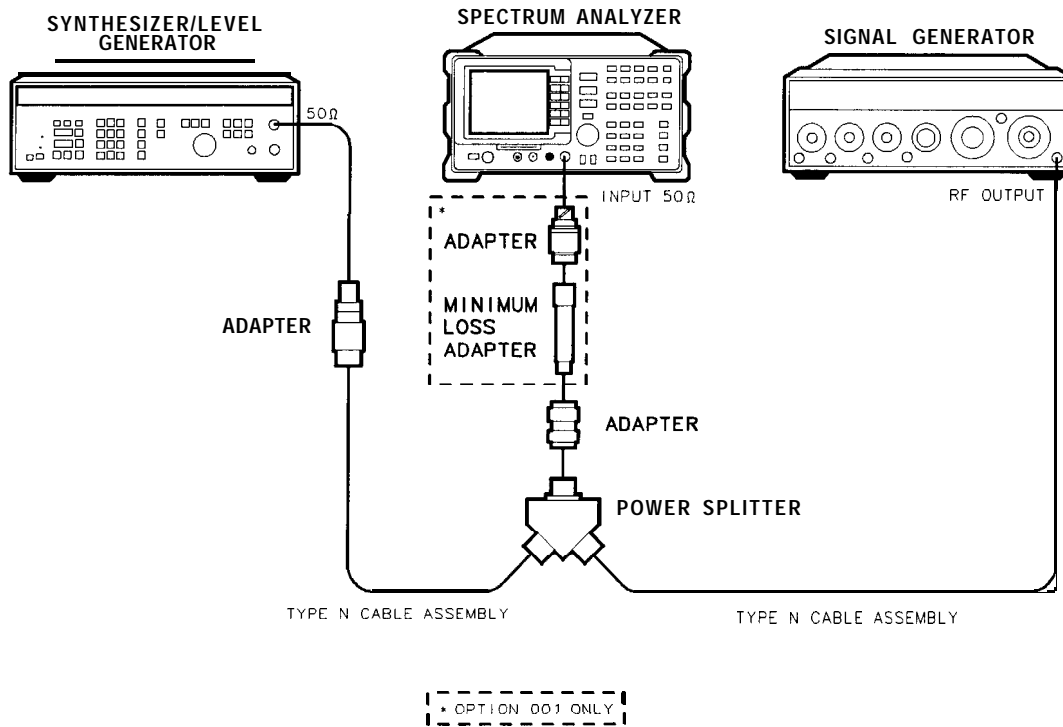

Figure 1-6. 10.1 MHz to 10 kHz Frequency Span Readout Accuracy Test Setup
1. Connect the equipment as shown in Figure 1-6. Note that the Power Splitter is used as a combiner.